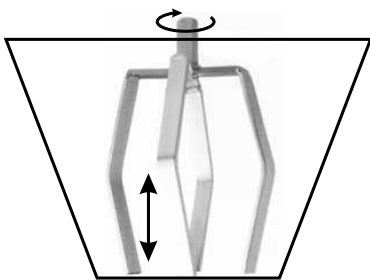

Figure 6. Mixing Tool Height Adjustment
1. Loosen the hexagon nut on the drive spindle and move the mixing tool up or down as required by turning it to the left or right. See Figure 6.